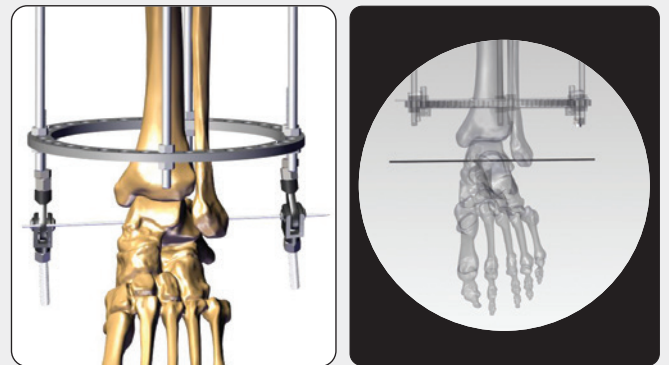

Fig. 2
- Attach the hinges to the tibial ring as shown in **Fig. 2 and 3**.
- Place a reference wire on the plane to identify the correct direction and insert the guide wire parallel to the plane of the joint (**Fig 2**).